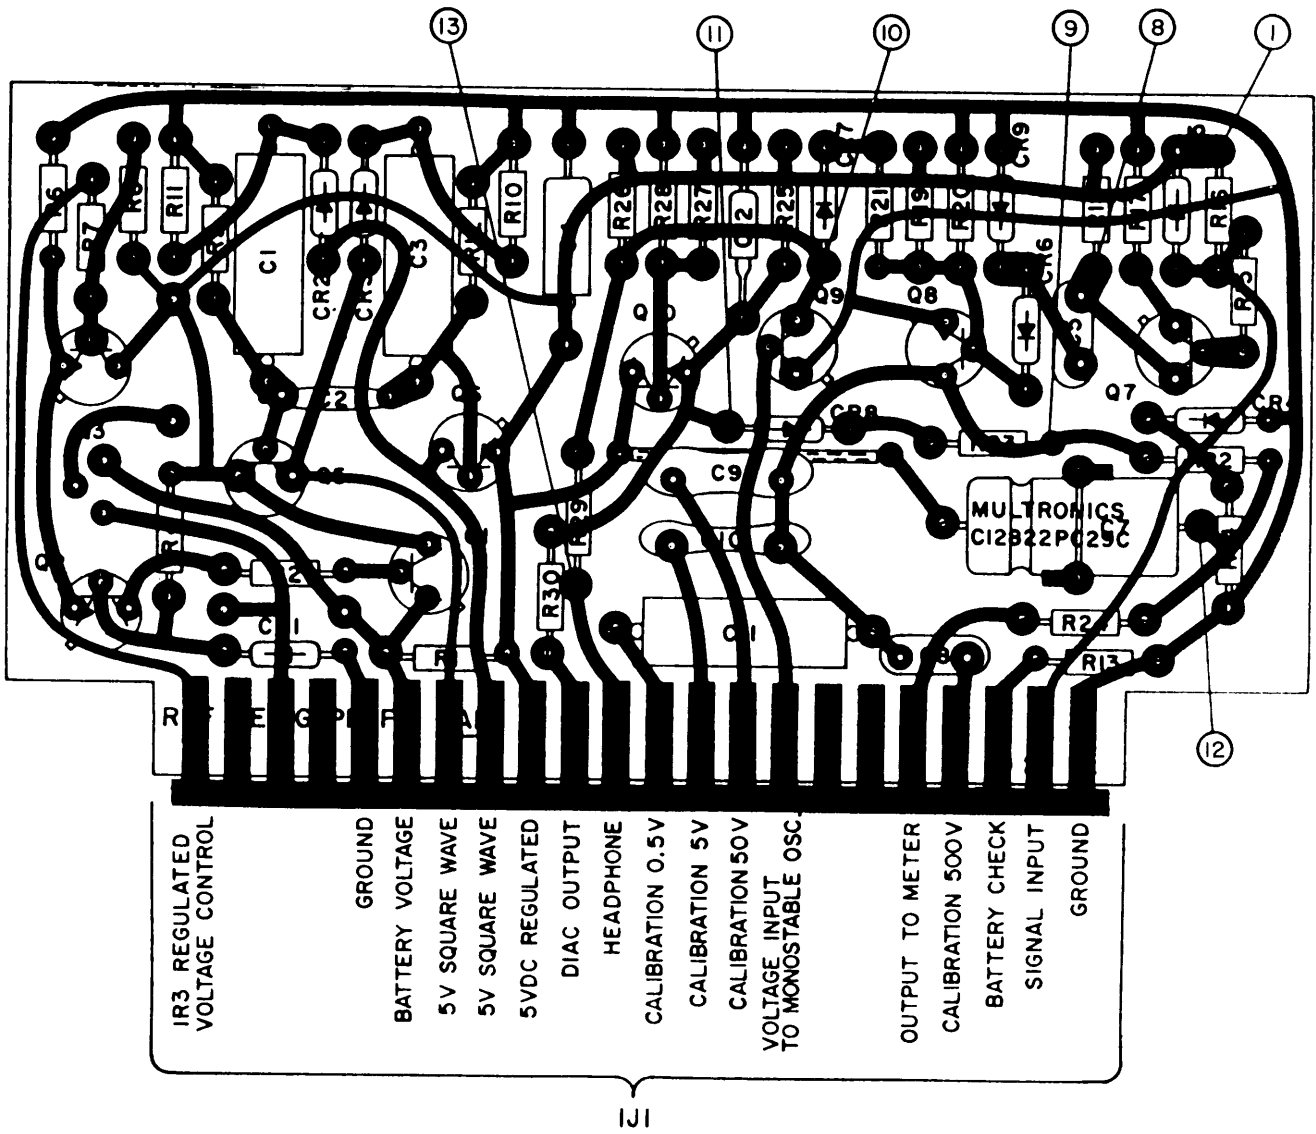
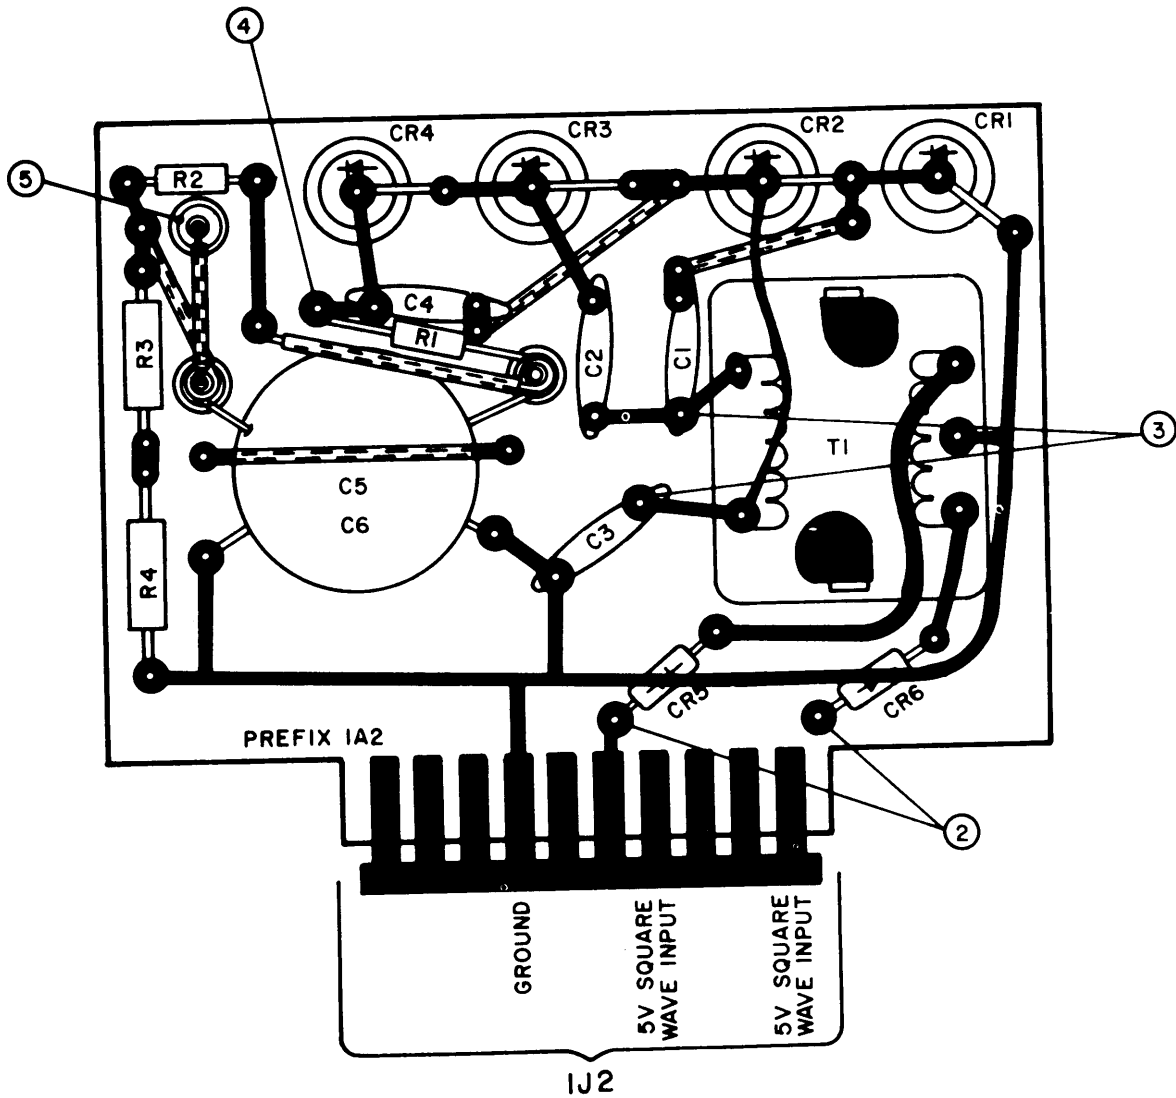

Figure 2-1. Low Voltage Assembly, 1A1, Component and Test Point Locations.
Figure 2-2. High Voltage Assembly 1A2, Component and Test Point Locations.
- (1) *Operation*. An operational test can help pinpoint trouble quickly (TM 11-6665-230-12).
- (2) Use of the *troubleshooting table*. The troubleshooting table, table 2-1, lists common symptoms, troubles, and corrective measures. Not all trouble symptoms are listed in the table, so use it as a guide for analyzing symptoms not listed.
- (3) Test *point data*. See figure 2-1, figure 2-2, and figure FO-1. Use with the troubleshooting chart to isolate defective parts.
- (4) *Removing and replacing parts*. Refer to TM 11-6665-230-40P.